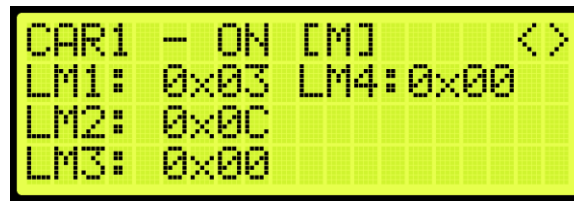

Figure 271: Linked Hall Mask Status
8. From the Linked Hall Mask Status (See Figure 271), press the right button.